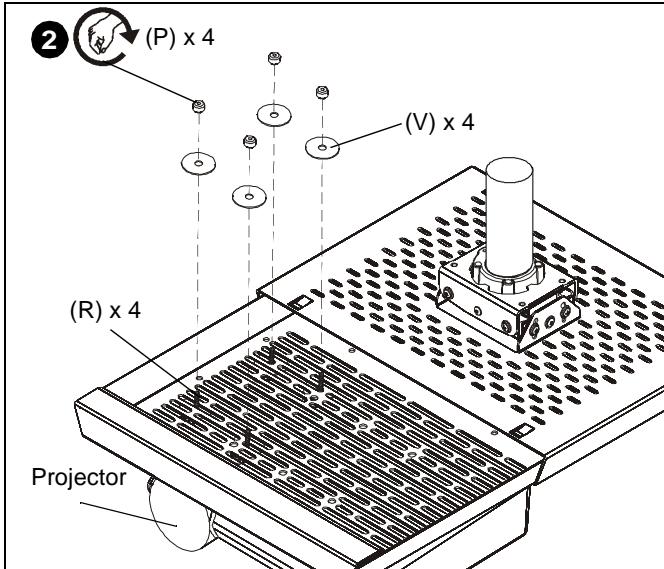

Figure 8
2. Remove the paper backing from the adhesive washers (V) and attach projector to drawer using adhesive washers (V) and thumb nuts (P) over the security legs (R). (See Figure 8)